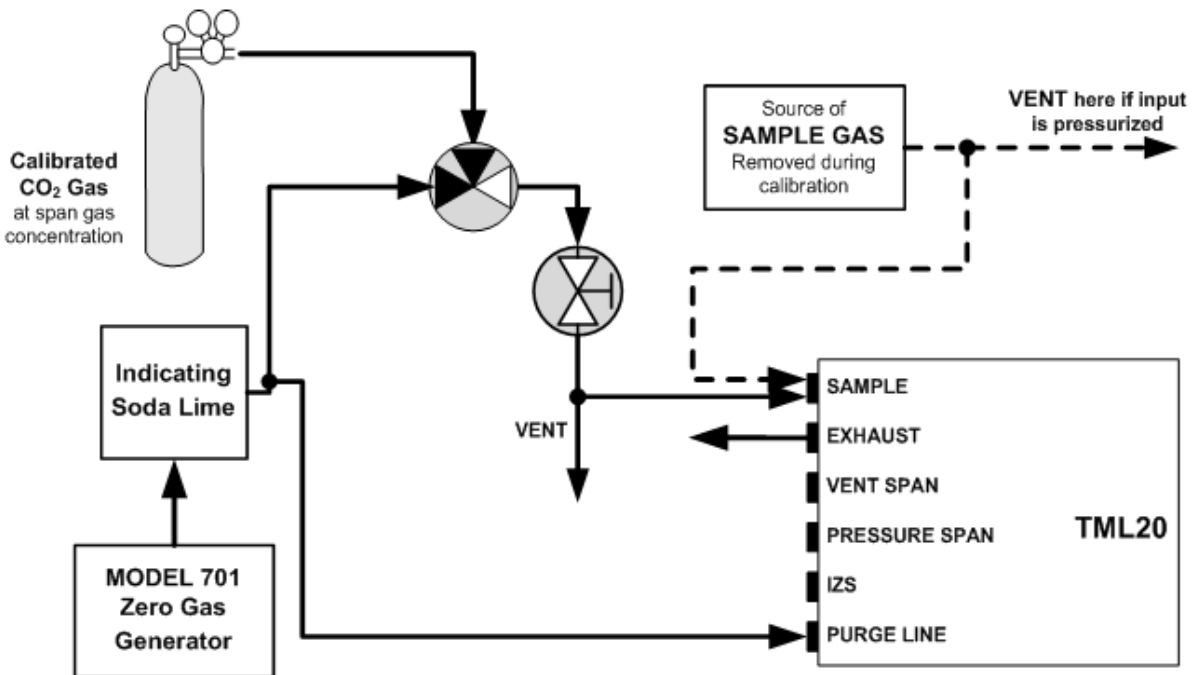

Figure 7-1: Pneumatic Connections—Basic Configuration—Using Bottled Span Gas
**STEP ONE:** Connect the sources of zero air and span gas as shown in Figure 7-1 or Figure 7-2.